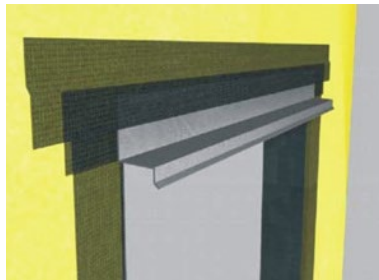

Figure 8
- e. Cut AquaFlash Mesh to proper length [flashing plus 4 in (102 mm) extending 2 in (51 mm) beyond each end of flashing] – Figure 8.